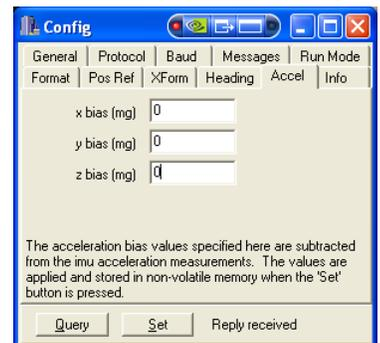

Figure 27. Info Tab
6.11 Accel - The "Accel" tab is used to compensate for accelerometer biases (Figure 27). The accelerometer biases compensation aids the unit by removing any biases which may be present. These biases are native to the sensors themselves and should be compensated for to ensure a more precise solution.